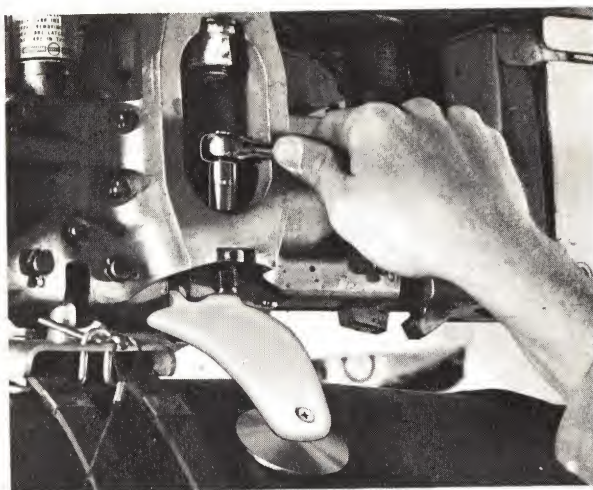

Figure 4-9. Sway Braces Tightened on Bomb.
4. Tighten sway braces, figure 4-9.